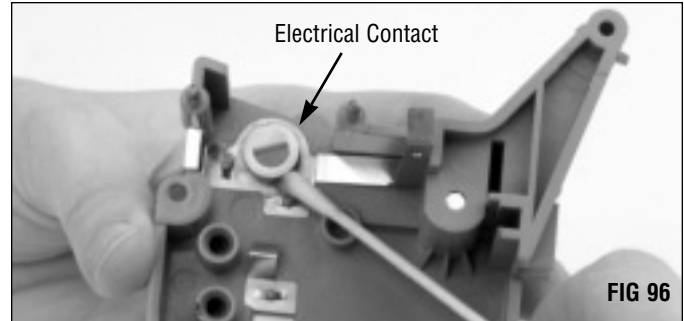

FIG 96
11. Clean the mag roller electrical contact on the right end plate with a Lint-free Swab (LFSWAB) or dampened with 91-99% isopropyl alcohol (FIG 96).